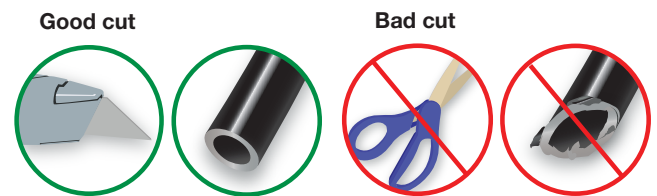
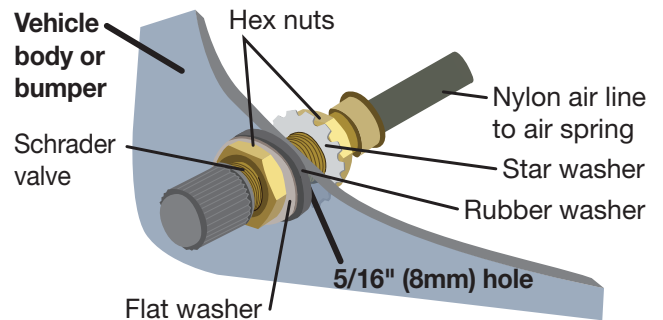

Fig. 35
Fig. 36
2. Cut the air line in half. Make clean, square cuts with a razor blade or hose cutter (Fig. 35). Do not use scissors or wire cutters.
3. Use zip ties (BB) to secure the air line to fixed points along the chassis. Do not pinch or kink the air line. The minimum bend radius for the air line is 1" (25mm). Leave at least 2" (50mm) of slack in the air line to allow for any movement that might pull on the air line.
4. Install the Schrader valve in the chosen location (Fig. 36).